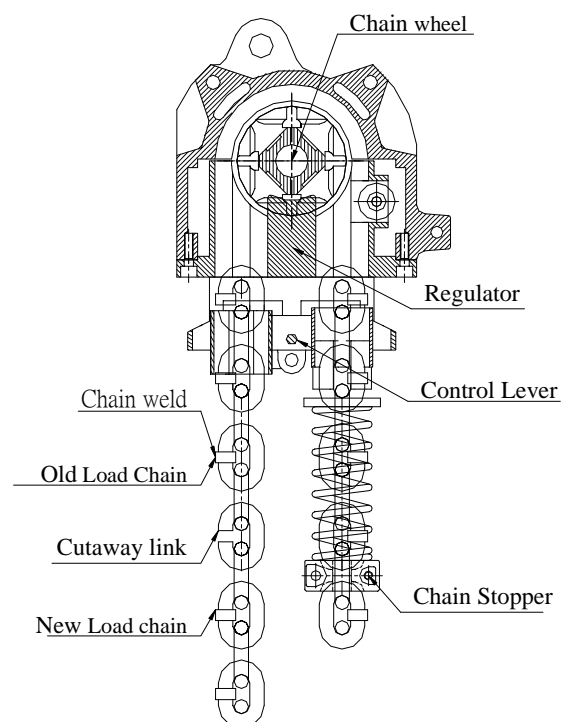

Fig. 11
4. Method (See Fig. 11)
- 2) Using an abrasive wheel, etc., cut a portion of the second link from the end (i.e. the first flat link) as shown in Fig. 11.